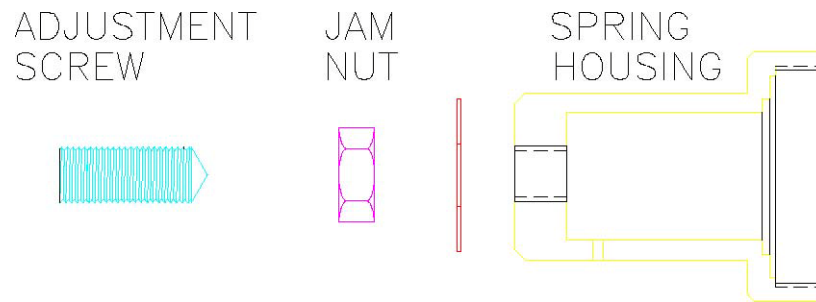

FIGURE 2
2.2.1 Loosen the jam nut on the regulator adjusting screw (see Figure 2).